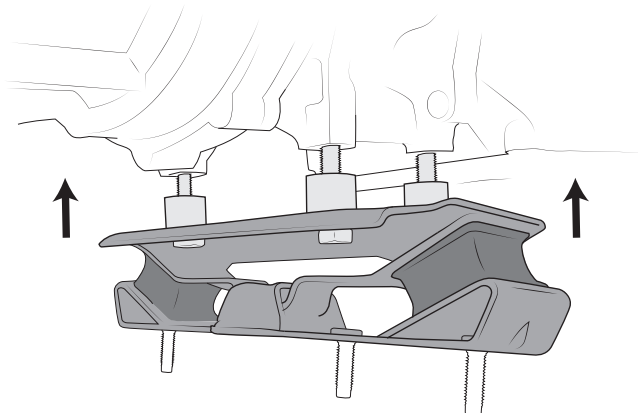

Figure 14
2. Reinstall transmission mount using the new hardware and spacers provided in the JK Hemi Mount W/ A580, and torque to 40 ft/lbs (fig 14).